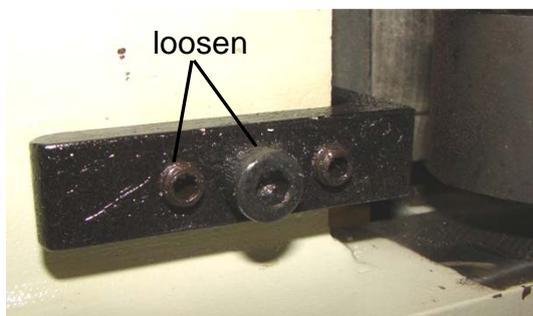

figure 25
11. Remove the shadow wire to avoid breaking it, before changing the blade. Loosen the center bolts of both brackets and the outside setscrews to relieve tension on the wire. (fig. 25)